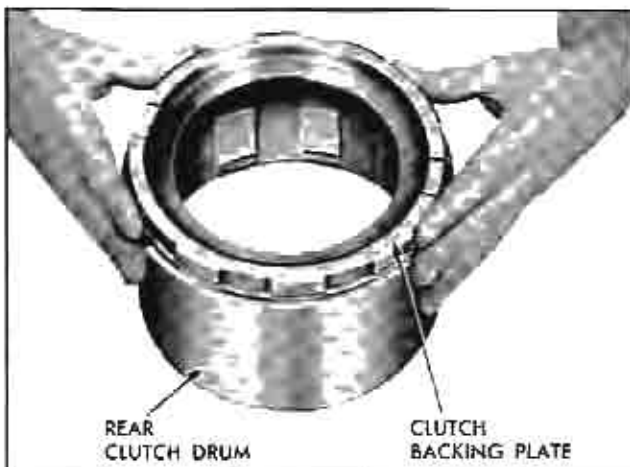

Fig. 86 Installing Rear Unit Clutch Backing Plate
6. Set rear unit drum on bench with long undercuts on lugs up (or with internal gear up if it was not removed) (Fig. 86).
7. Install clutch backing plate, flat surface down (Fig. 86). Align lugs of plate with slots of rear drum and tap plate, using soft hammer, into place against spline shoulder in drum.